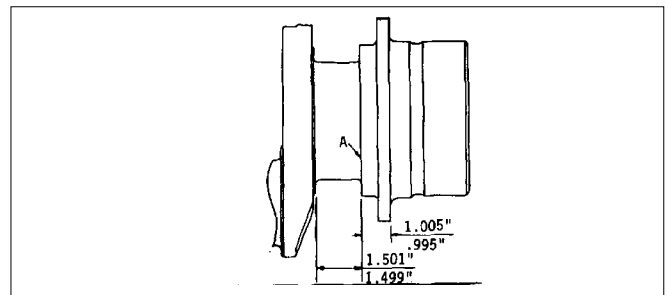

Fig. 8. Standard Dimensions at Crankshaft Thrust Surfaces
Also measure the crankshaft thrust surfaces (Fig. 8).
- (5) Polish the ground surfaces to an 8-12 R.M.S. finish. The reground journals will be subject to excessive wear unless polished smooth.
- (6) If the thrust surfaces of the crankshaft (Fig. 8) are worn or grooved excessively, they must be taken to leave a .130" to .160" radius between each thrust surface and the bearing journal.
- (7) Stone the edge of all oil holes in the journal surfaces smooth to provide a radius of approximately 3/32".
- (8) After grinding has been completed, inspect the crankshaft by the magnetic particle method to determine whether cracks have originated due to the grinding operation.
- (9) Demagnetize the crankshaft.
Note: If the crankshaft thrust surfaces were reground, it may be necessary to install oversize thrust washers on one or both sides of the rear main journal. Refer to Fig. 8 and Table 3.